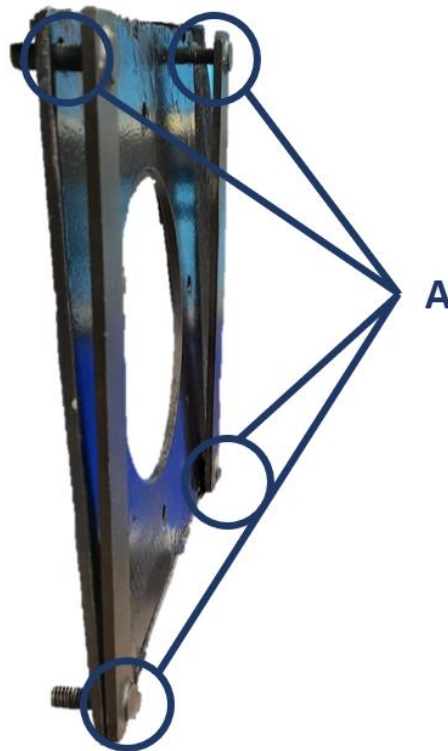

Figure 10: Inserting detector plate screws
- 3) Insert the detector plate screws into the screw holes, Item A, Figure 10 as prepared in section 5.2.1 on page 40.